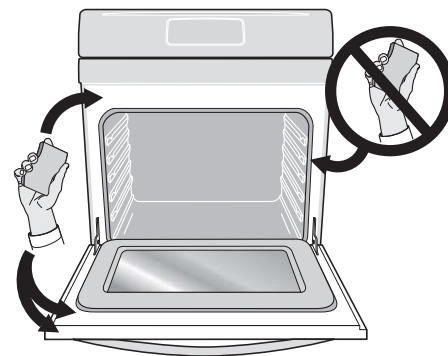

Figure 39: Clean around the oven door gasket
- Do not use oven cleaners or protective coatings in or around any part of the oven interior. Do not clean the oven door gasket. Take care not to rub, damage, or remove the gasket or use any cleaning substances on the oven door gasket (See Figure 39). Doing so could cause damage and reduce the efficiency of the oven's performance.
- Clean any soil from the oven frame, door liner outside the oven door gasket, and the small area at the front center of the oven bottom with soap and water (See Figure 39). These areas heat sufficiently to burn soil on.